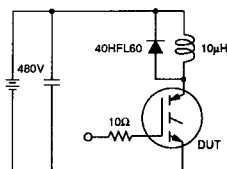

Fig 12a. Clamped Inductive Load Test Circuit
- ② $V_{CC} = 80\% (BV_{CES})$, $V_{GE} = 20V$, $L \geq 10 \mu H$, $R_G = 10\Omega$, (See figure 12a)
- ③ Pulse width $\leq 80 \mu s$; duty factor $\leq 0.1\%$.
- ④ Pulse width $\leq 5 \mu s$, single shot
- ⑤ K/W equivalent to $^\circ\text{C}/W$